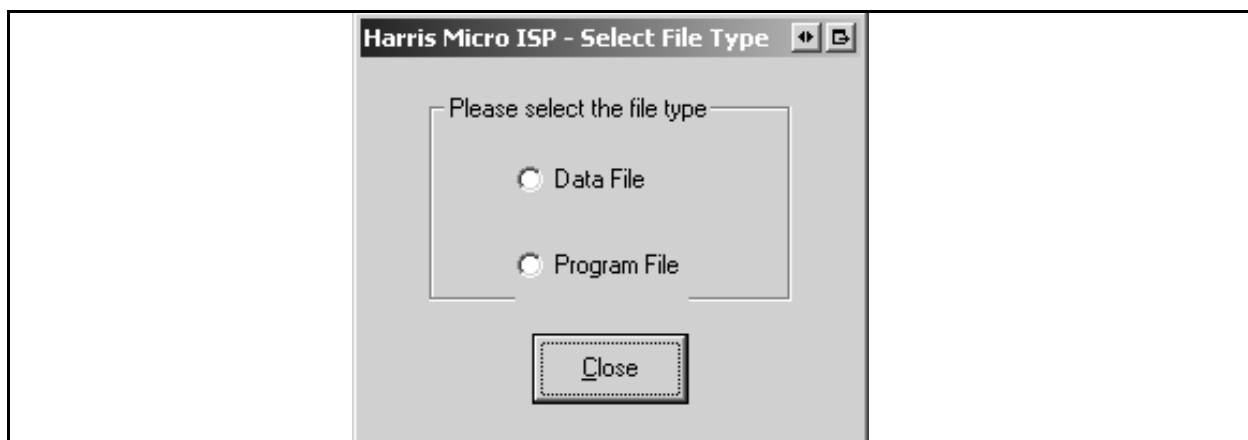

Figure 1-4 Controller Selected for Update, Program File Selected
- STEP 7** Once it has found the micro, select the micro by double-clicking the icon to the left of the name. This will open the smaller pop-up window shown in Figure 1-4.